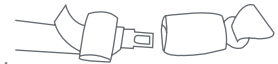

Fig. 42-2
- A **manually adjusted** lap seat belt is tightened by pulling on the free end of the seat belt while pushing down hard on the Safety Seat or Base. If you experience difficulty tightening the seat belt, unbuckle the seat belt, tighten the seat belt a small amount and re-buckle the seat belt. Repeat this procedure until the seat belt is very tight around the Safety Seat or base. Check that the seat belt remains very tight around the Safety Seat or base (Fig. 42-2).